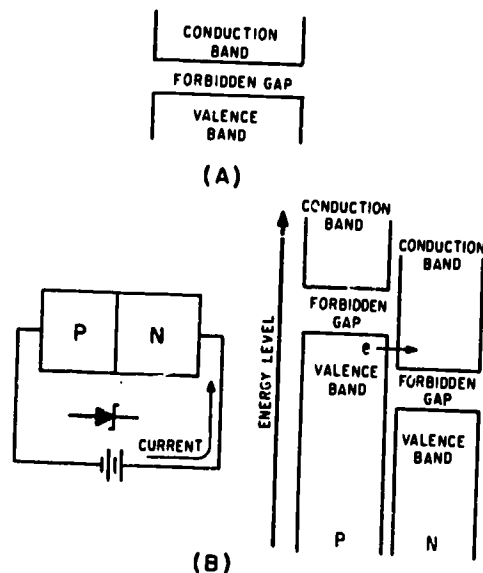

Fig 3-2. Energy diagram for Zener diode.
The true Zener effect in semiconductors can be described in terms of energy bands; however, only the two upper energy bands are of interest. The two upper bands, illustrated in figure 3-2, view (A), are called the conduction band and the valence band.
A conductor is a material in which the forbidden gap is so narrow that it can be considered nonexistent. A semiconductor is a solid that contains a forbidden gap, as shown in figure 3-2, view (A). Normally, a semiconductor has no electrons at the conduction band energy level. The energy provided by room temperature heat; however, is enough energy to overcome the binding force of a few valence electrons and to elevate them to the conduction band energy level. The addition of impurities to the semiconductor material increases both the number of free electrons in the conduction band and the number of electrons in the valence band that can be elevated to the conduction band. Insulators are materials in which the forbidden gap is so large that practically no electrons can be given enough energy to cross the gap. Therefore, unless extremely large amounts of heat energy are available, these materials will not conduct electricity.
View (B) of figure 3-2 is an energy diagram of a reverse-biased Zener diode. The energy bands of the P and N materials are naturally at different levels, but reverse bias causes the valence band of the P material to overlap the energy level of the conduction band in the N material. Under this condition, the valence electrons of the P material can cross the extremely thin junction region at the overlap point without acquiring any additional energy. This action is called tunneling. When the breakdown point of the PN junction is reached, large numbers of minority carriers "tunnel" across the junction to form the current that occurs at breakdown. The tunneling phenomenon only takes place in heavily doped diodes such as Zener diodes.